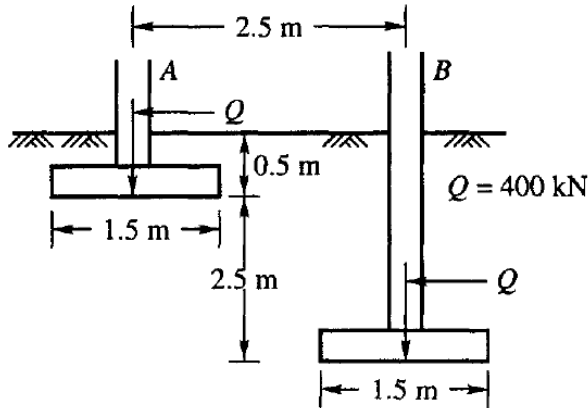

Figure:1.
- b) A and B are two footings of size $1.5\text{ m} \times 1.5\text{ m}$ each placed in position as shown in figure 1. Each of the footings carries a column load of 400 kN . Determine by the Boussinesq method, the excess load footing B carries due to the effect of the load on A . Assume the loads at the centre of footings act as point loads. [7M]